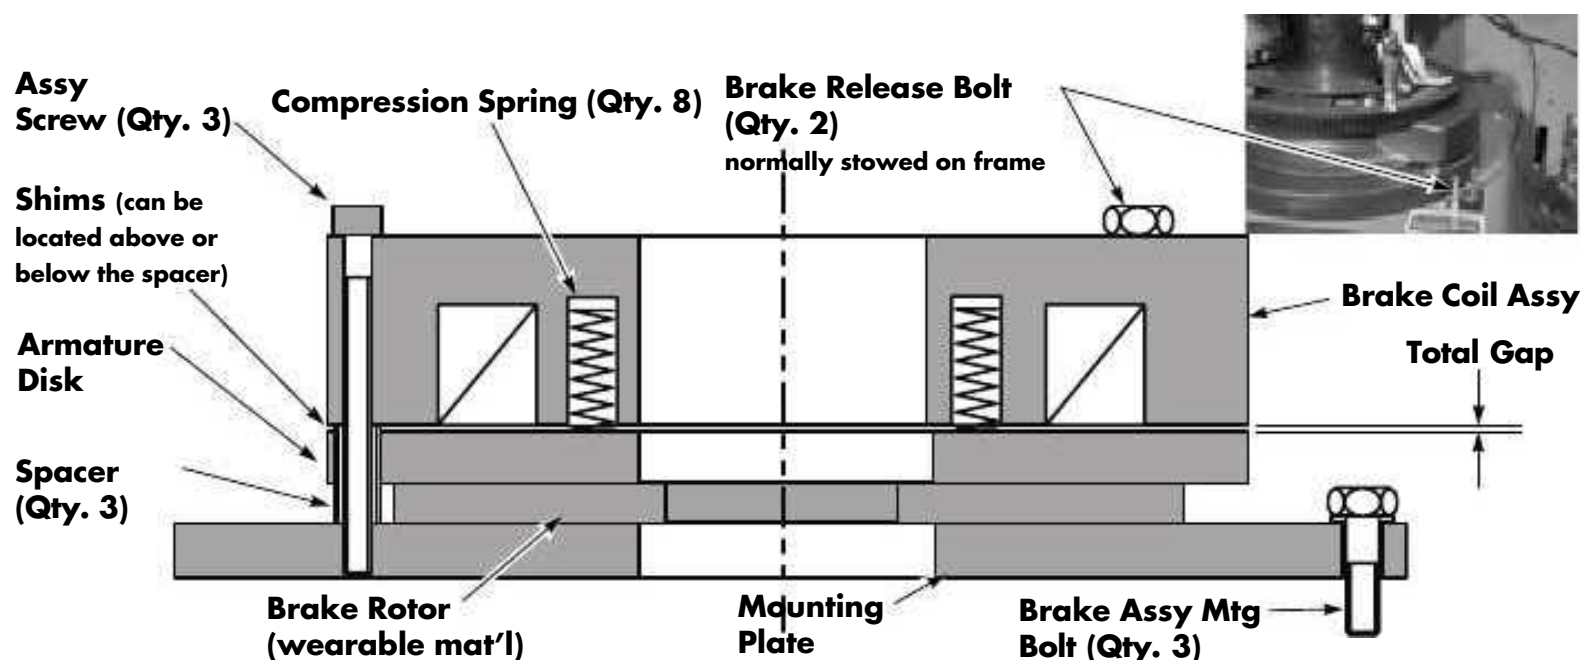

Figure 7-137. Brake Assembly Components
The brake assembly is mounted on top of the drive motor. The brake is spring applied and electrically released. The brake can be manually released by installing the brake release bolts. See Figure 7-137.
2. With the brake de-energized (fully applied), use a feeler gauge to measure the total gap. See Figure 7-137.